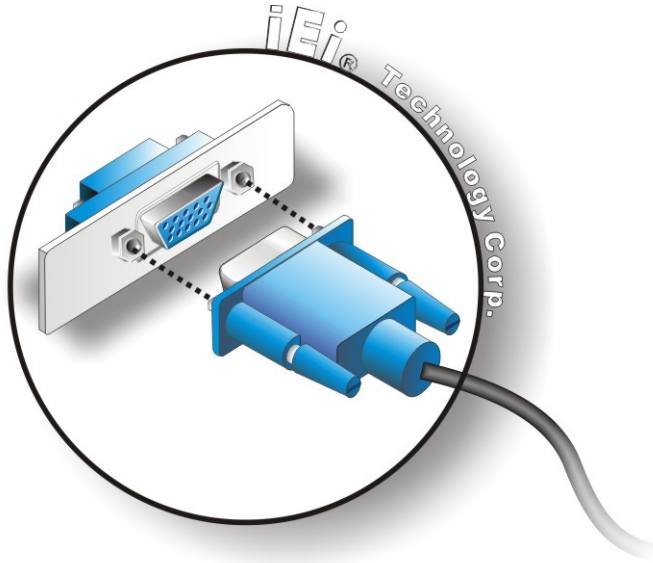

Figure 5-16: VGA Connector
Step 3: Insert the VGA connector. Once the connectors are properly aligned with the insert the male connector from the VGA screen into the female connector on the eKINO-945GSE. See **Figure 5-16**.